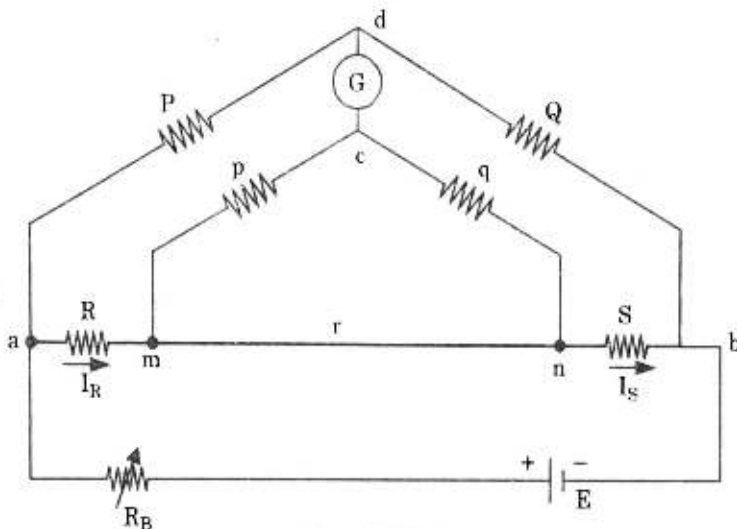

Fig. 3.3.1.
4. The circuit diagram is shown in Fig. 3.3.1.